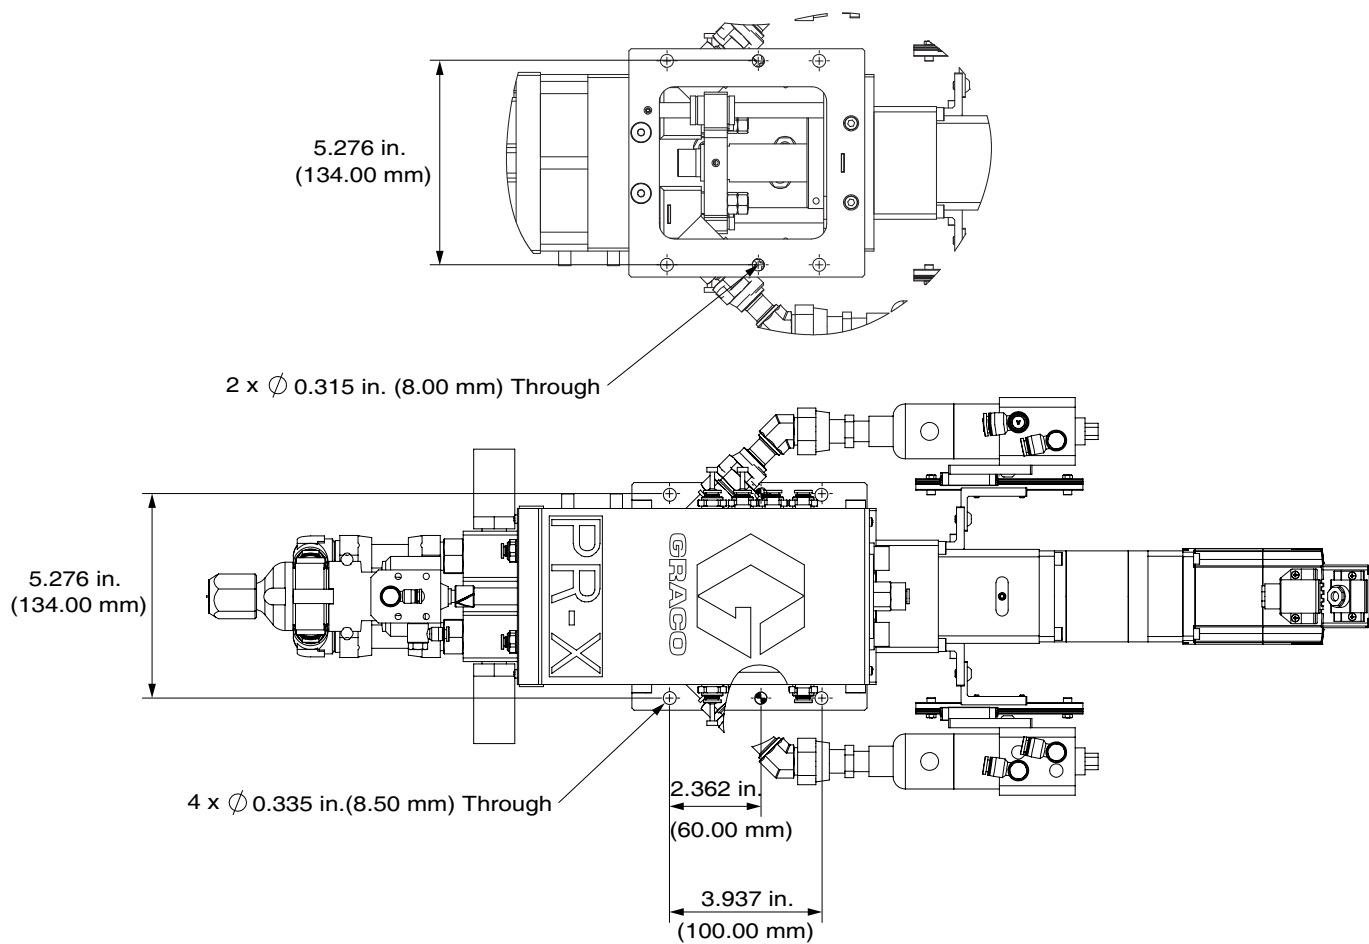

FIG. 4: Mounting Hole Dimensions for Installing the PR-X Machine
1. The PR-X Machine (H) can be directly mounted on a Customer Robot (M) or remotely mounted on a motion table or table top. Verify the location has access to compressed air and AC power.
2. Place the PR-X Machine (H) onto the designated location.
3. Attach the PR-X Bottom Plate (AJ) to the selected location by installing fasteners (not provided with the PR-X machine) through the four mounting holes. There are also two position pin holes. Refer to FIG. 4 for mounting hole dimensions.